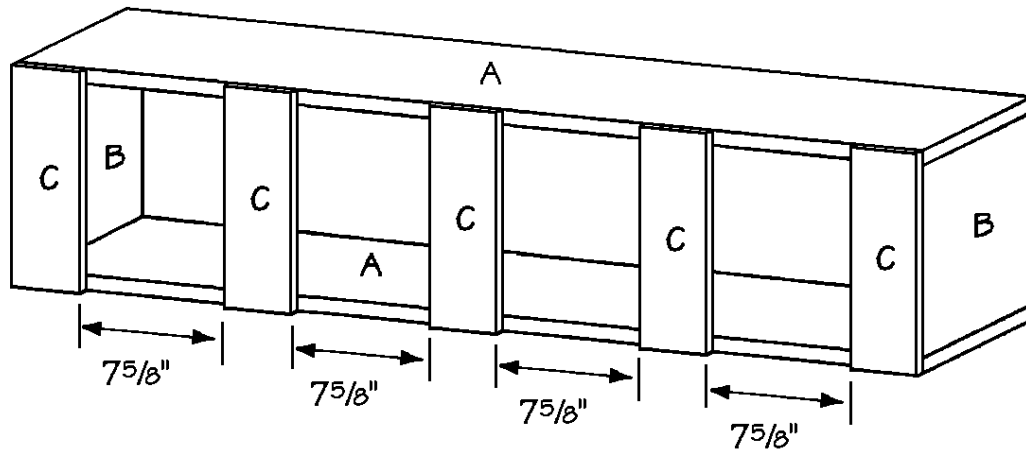

Figure 2
4. Cut five vertical trims (C) from 1 x 4 pine, each measuring 11 inches long.
5. Refer to *Figure 2* to attach each of the five vertical trims (C) across the open front of the buffet top. The first vertical trim (C) should be flush with the outer edges of the sides (B) and